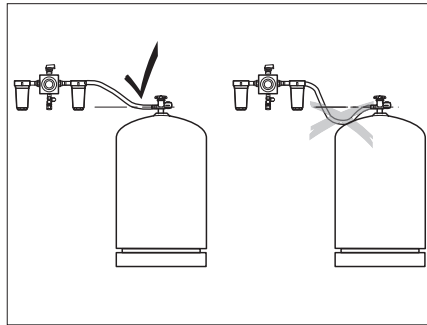

Fig. 235 Routing of the high-pressure hoses
- ▷ When routing the high-pressure hoses ensure that the hoses rise continuously (Fig. 235).